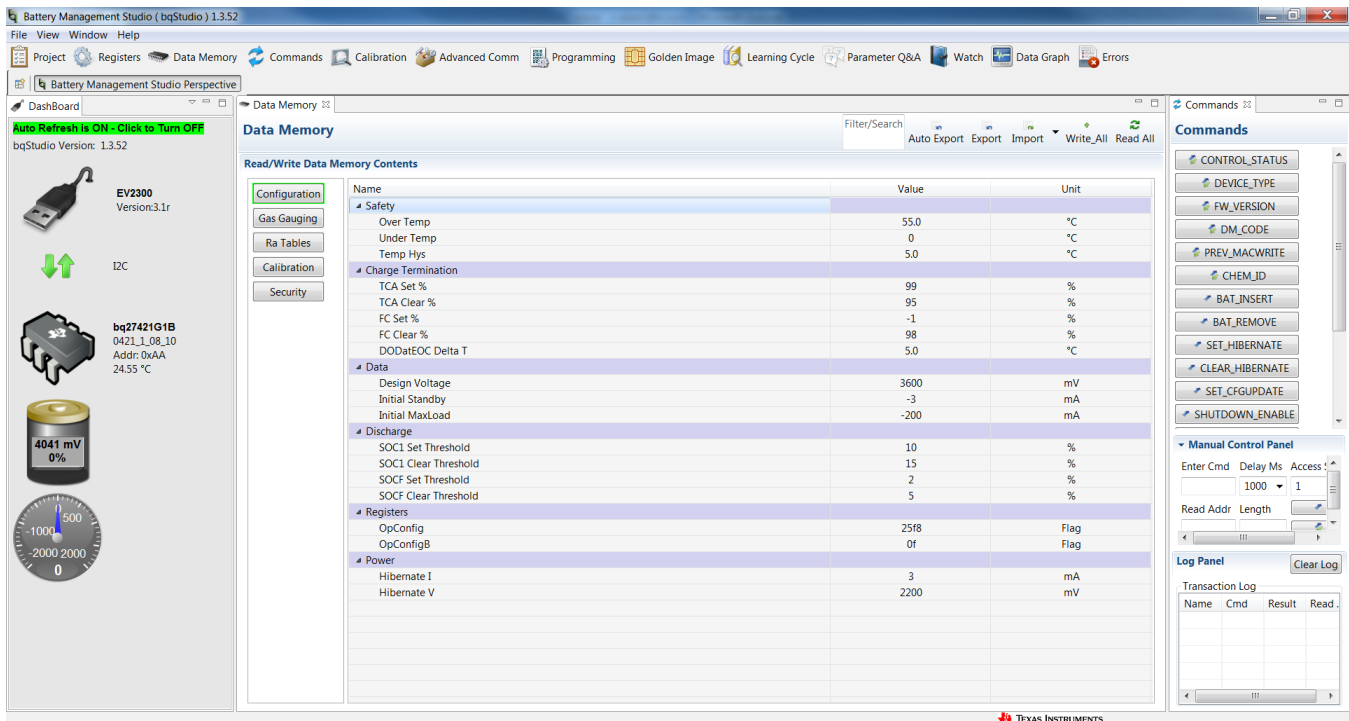

Figure 10. Data Memory Screen
**IMPORTANT:** The correct setting of these options is essential to get the best performance. The settings can be configured using the *Data Memory* screen (Figure 10).